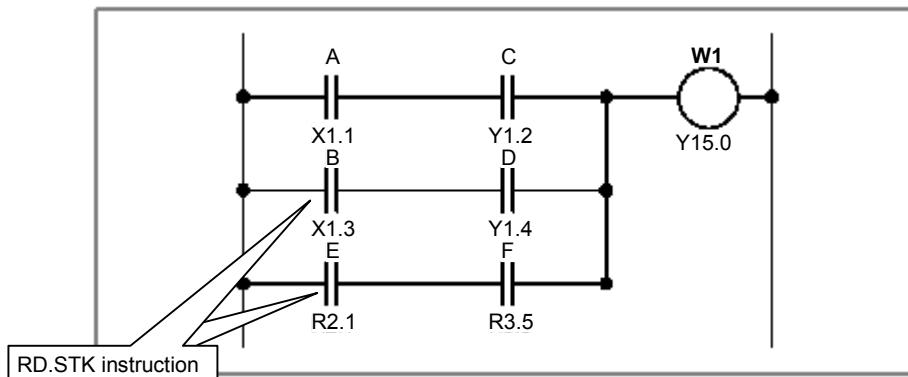

Fig. 4.1.10
- (1) The RD.STK instruction stacks the interim result of a logical operation. Use this instruction when the signal you specify is contact A (- | -). After shifting the register content one bit to the left, the instruction sets the status of the signal at the specified address in the ST0 bit.
- (2) For examples of how the RD.STK instruction is used, see Fig. 4.1.10 and Table 4.1.10.